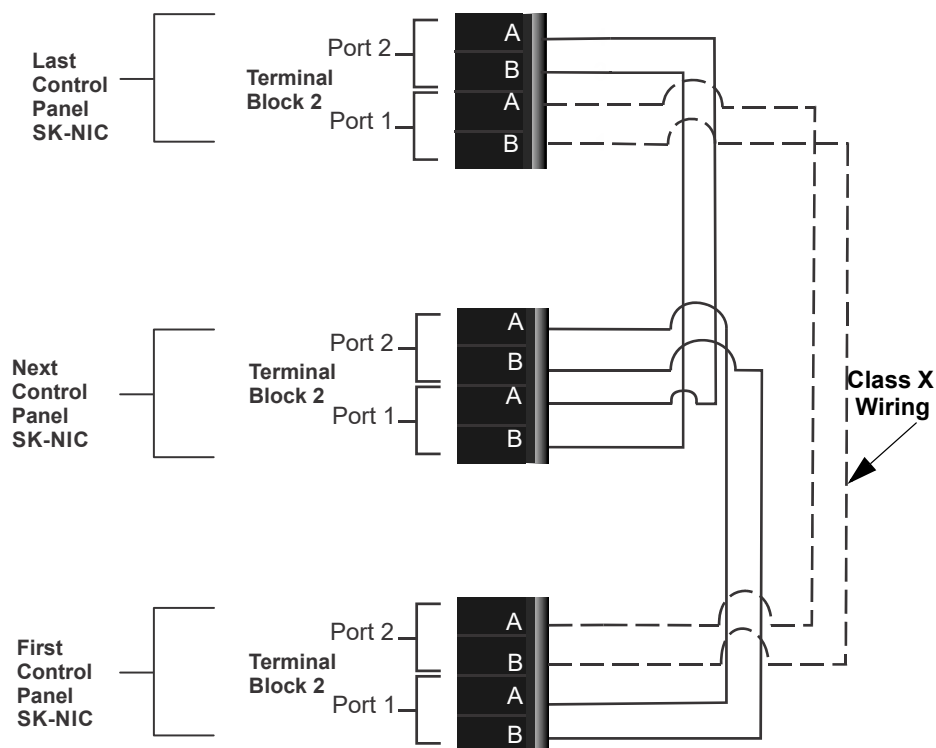
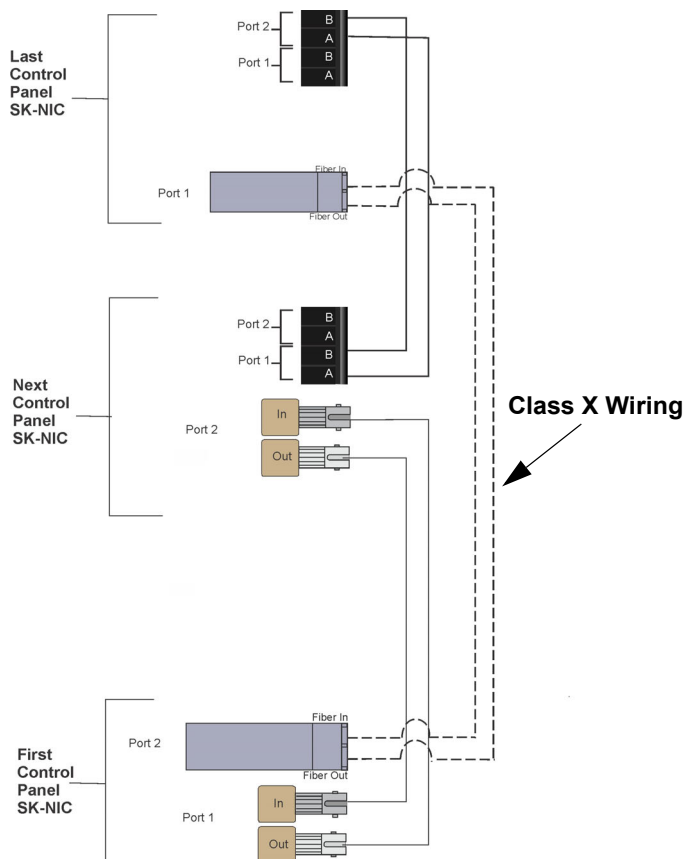

Figure 5.6 Twisted Pair Wiring Configuration
Figure 5.9 Twisted-Pair and Fiber-Optic Combination Wiring Example
5. Based on the type of data medium chosen, run the twisted pair wiring/fiber optic cable to the next SK-NIC using a Class B or Class X wiring method. A combination of both medium types can be used. See Figure 5.6, Figure 5.7, Figure 5.8, and Figure 5.9 for SK-NIC wiring examples.
Unshielded twisted-pair wiring between multiple panels is shown in Figure 5.6. Class X wiring is shown with a dotted line.
A mixture of fiber-optic cable and twisted-pair wiring between multiple panels is shown in Figure 5.9. Class X cabling is shown with a dotted line.